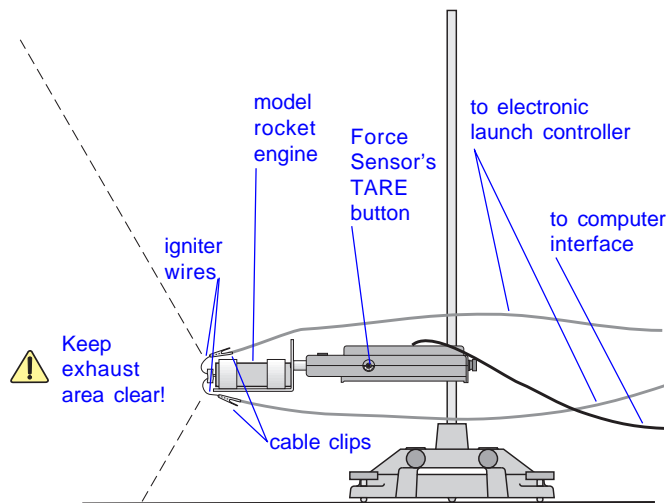

Figure 4
⚠ *Note: Do not allow the igniter wires or alligator clips to touch each other. Be certain that the safety key is not in the launch controller. Insure that the cables are well away from the exhaust area (Figure 4) and the computer interface is as far away from the exhaust area as possible.*
5. Press the TARE button on the Force Sensor (Figure 4).